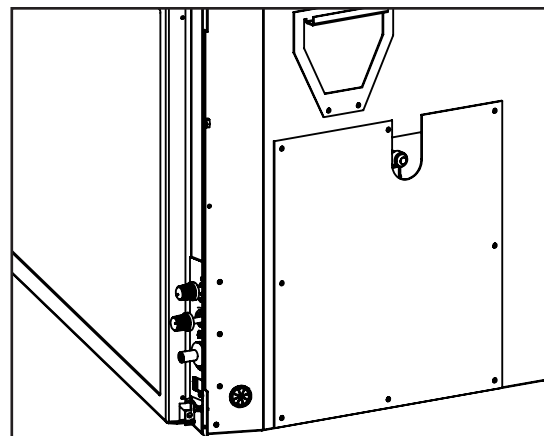

Figure 28: $\frac{3}{8}$ " NPT Male Pipe Nipple with Cover Attached.
- A $\frac{3}{8}$ " NPT male pipe nipple (supplied with the unit) will have to be turned into the valve at the lower left side rear of this fireplace (see Figures 28 and 29). Consult the local authorities for local codes or use the CAN/CGA B149 (1 or 2) installation code in Canada. In the US, gas installations follow either local codes or the current edition of the National Fuel Gas Code ANSI Z223.1.